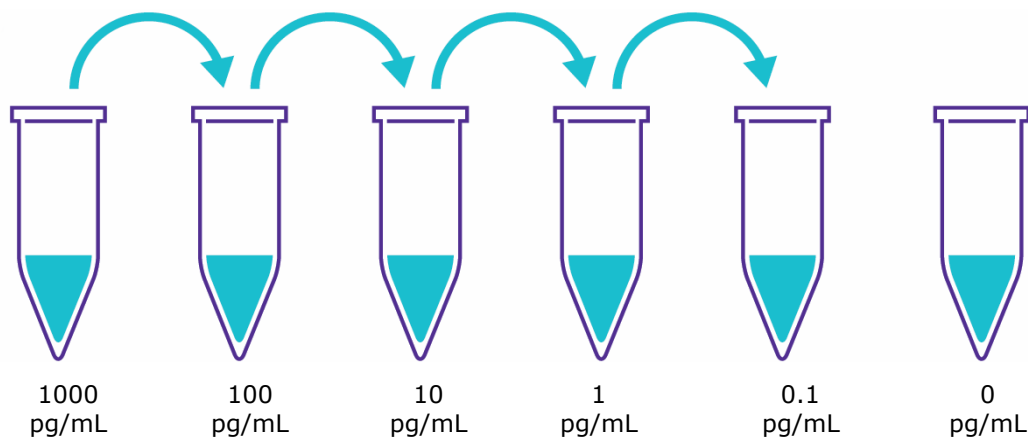

Figure 1: Dilution Series for Standards
- (c) Repeat this step with each successive concentration, preparing a dilution series as shown in Figure 1. Each time, use 450 μL of biotinylated BNP and 50 μL of the prior concentration until the 0.1 pg/mL is reached. Mix each tube thoroughly before the next transfer.